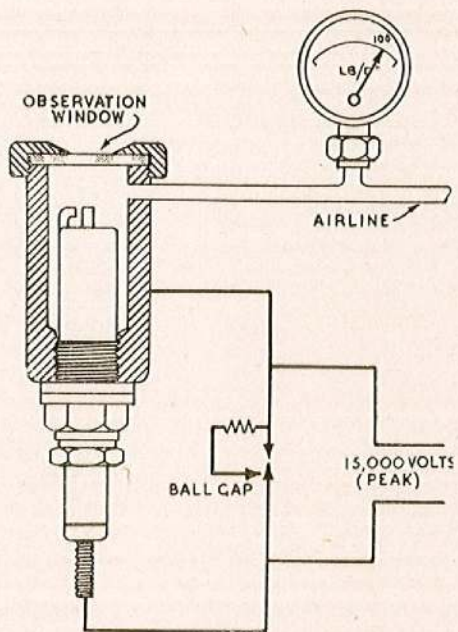

Fig. 2. Testing the plug under pressure
12. Before final acceptance the plugs must be tested under pressure at 15 Kv. and 30 lb. per sq. in. (fig. 2) when regular sparking should take place at the plug gap.